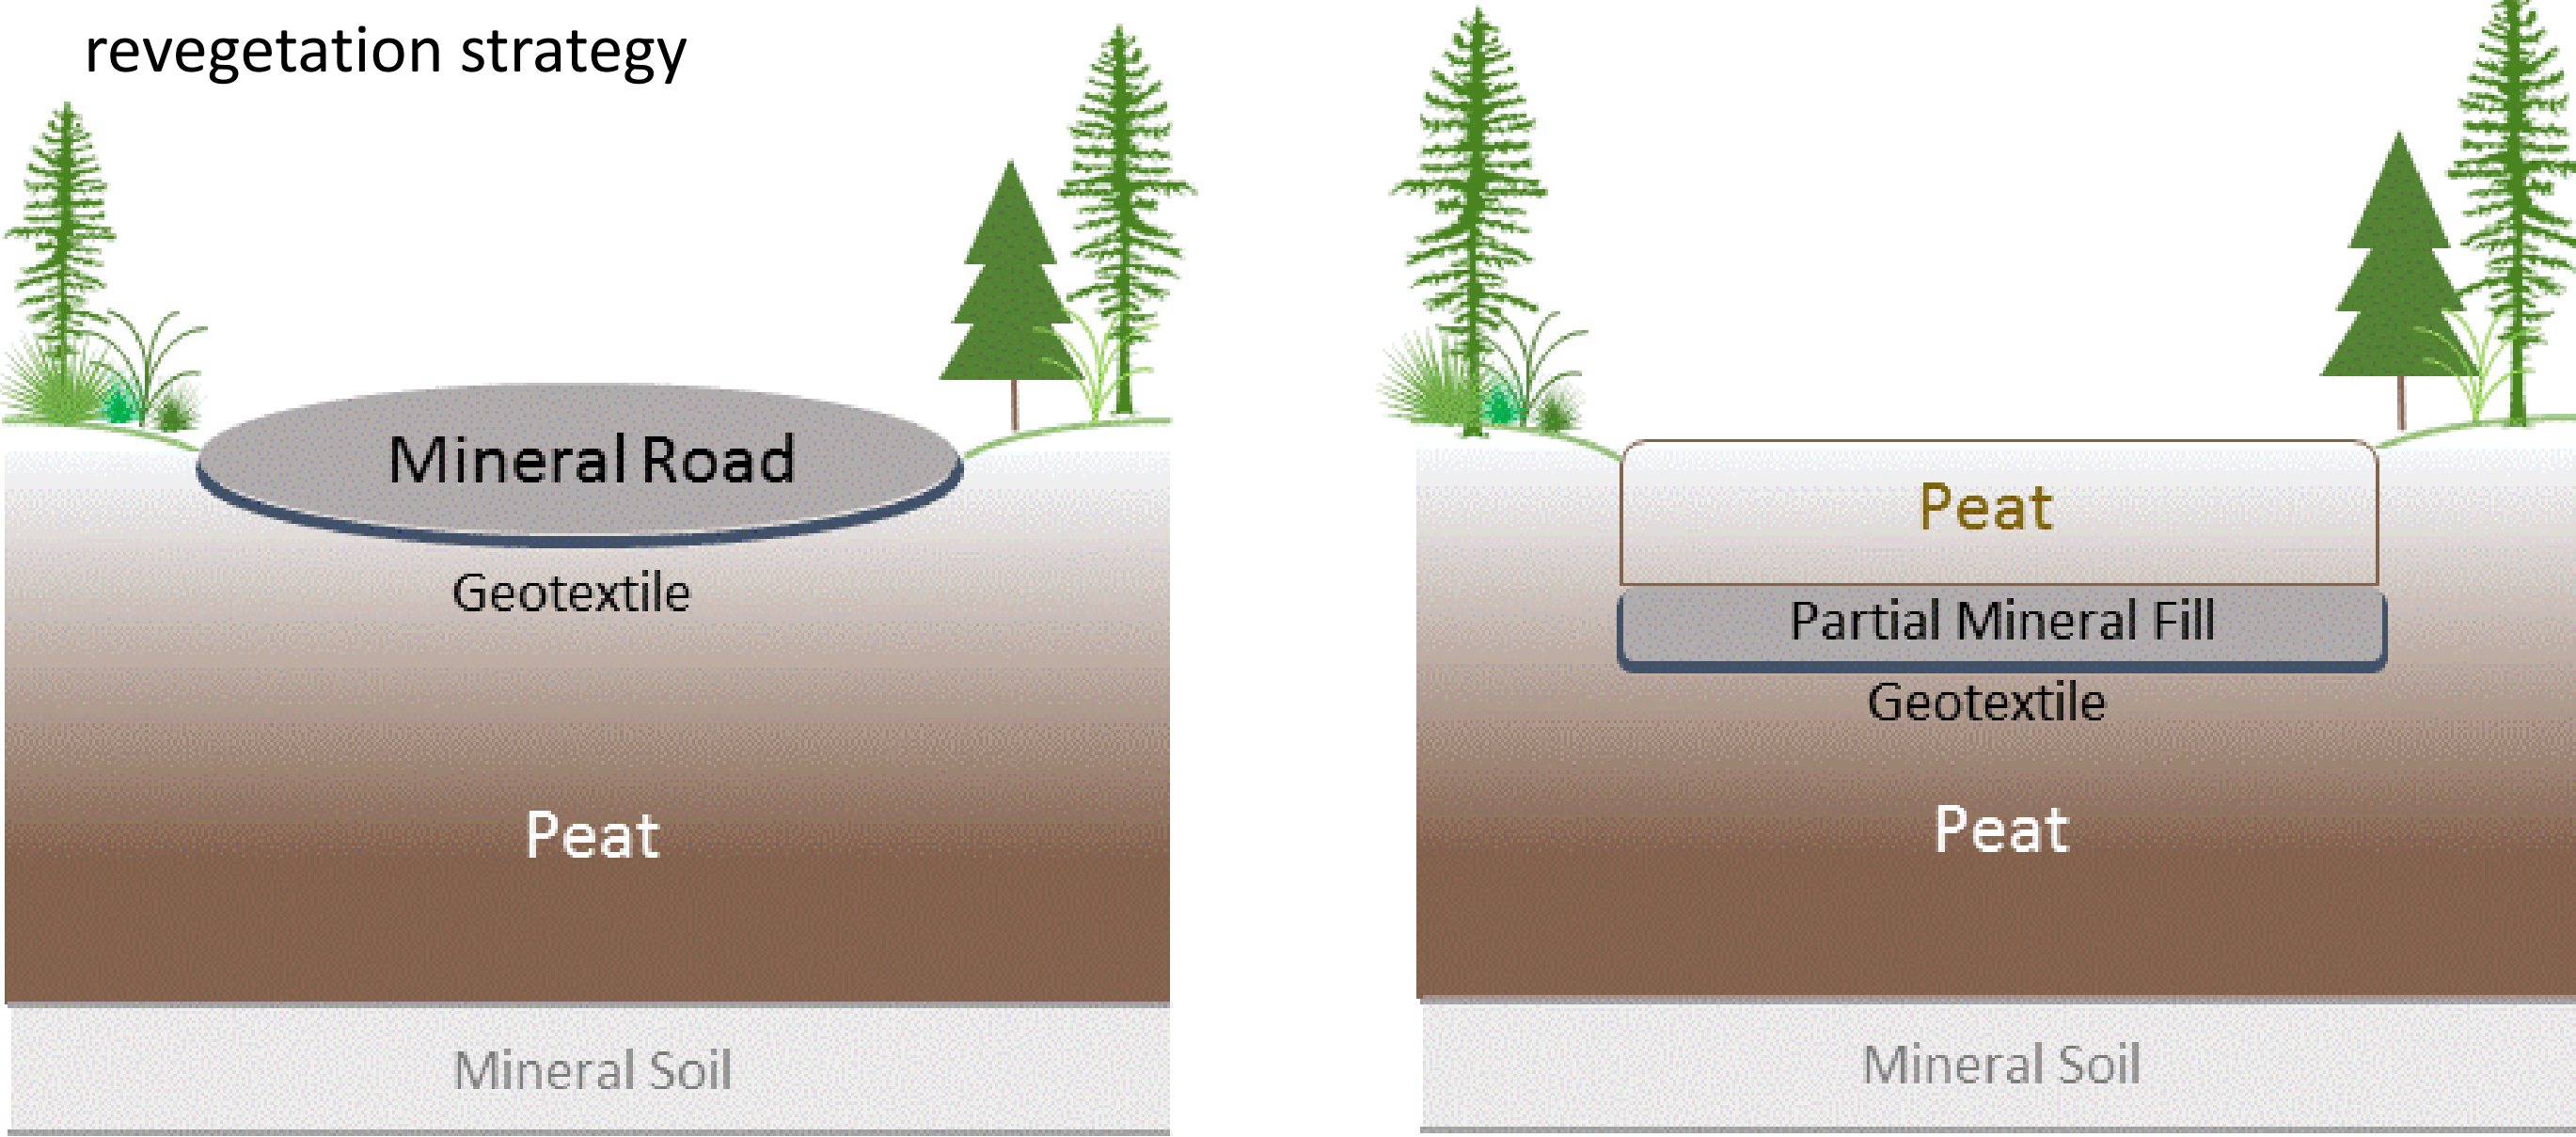

Figure 2. Perpendicular cross section of mineral road. Left) Mineral fill in place, Right) mineral layer & geotextile inverted with buried peat.
- Mineral road with geotextile (Figure 2)